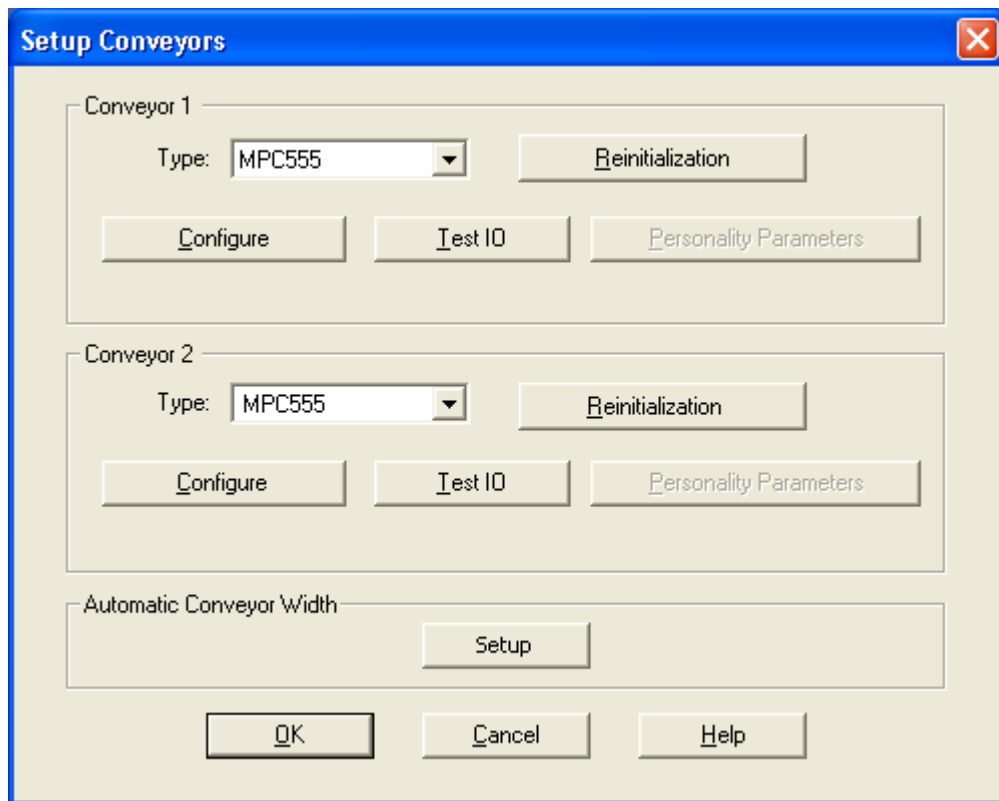

Figure 2-1 Setup Conveyors Window
- ▶ The Setup Conveyors Window (Figure 2-1) opens.
8. Click **Configure** for Conveyor 2 (Figure 2-1).